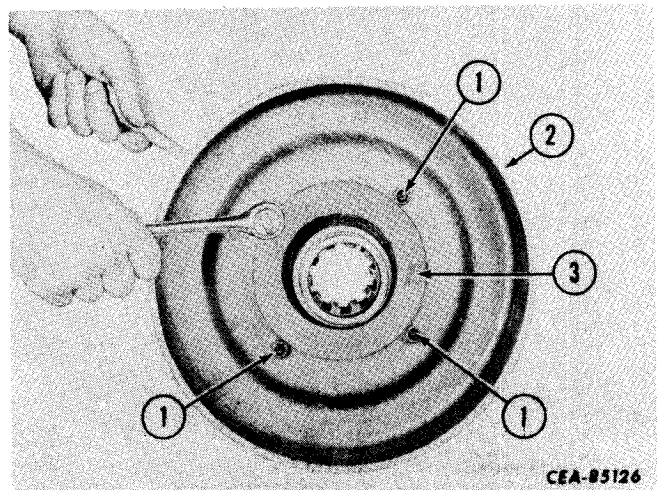

Figure 13-110
Place the yoke (3, Fig. 13-110) in the drum (2) and secure with the cap screws and locknuts (1). Torque the locknuts. Refer to "SPECIAL TORQUES" in this section.